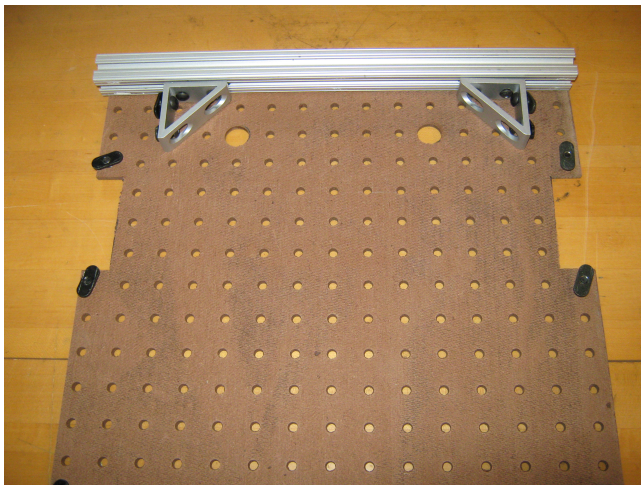

Figure 7: Slide 15" 80/20 and angle brackets onto front sliders. The placement of your sliders on the pegboard may look slightly different from that shown here.
4. Slide the 15" beam of 80/20 onto the two front sliders, as shown in Figure 7. Slide two of the angle brackets onto the 80/20, placed so that their hypotenuses are facing inwards.